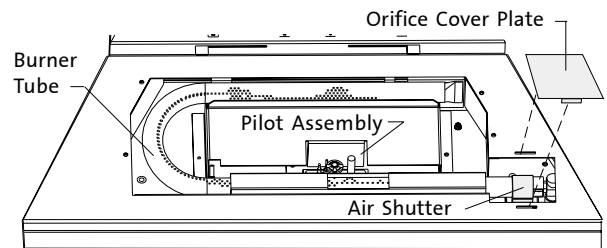

Figure 2. Burner assembly and orifice cover plate.
3. **Remove the fettle, log set, logset base and orifice cover plate.** Fig. 2.